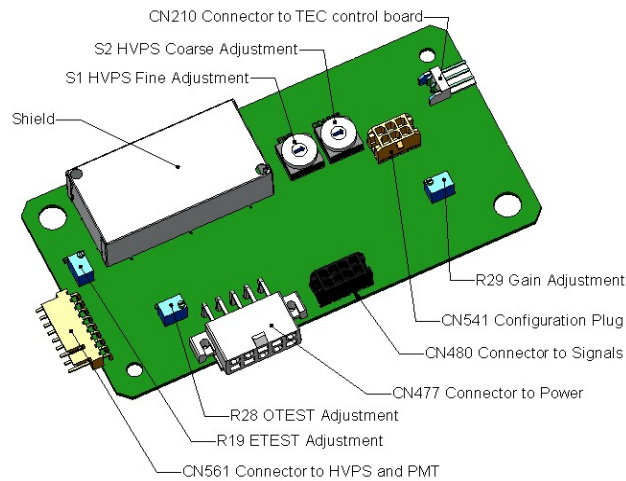

Figure 5-18. Pre-Amplifier Board Layout
4. Locate the following components on the preamplifier board (Figure 5-18):